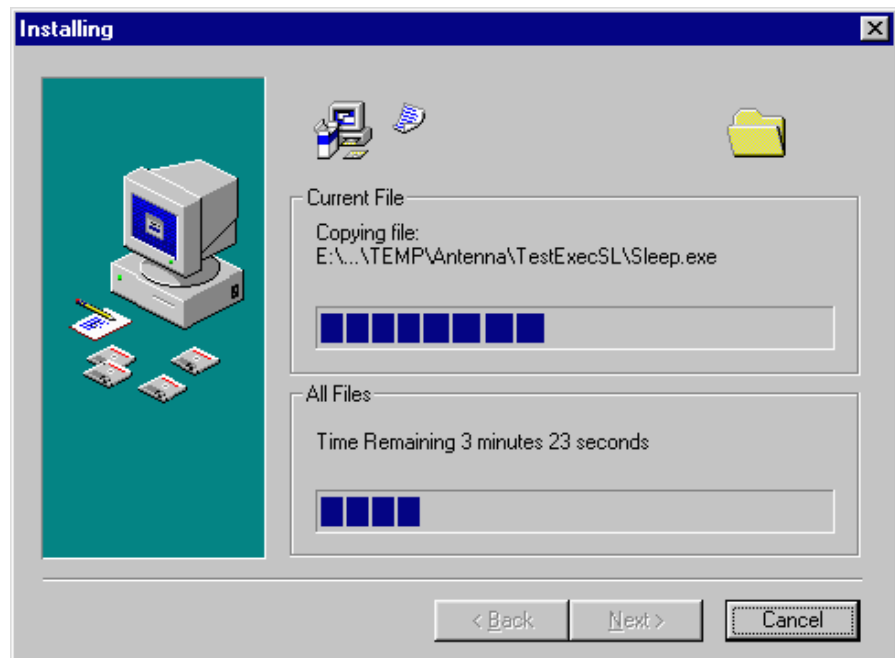

Figure 7 *Installation Progress Screen*
12. During the file transfer several screens are displayed showing the progress of the installation. See Figure 7.